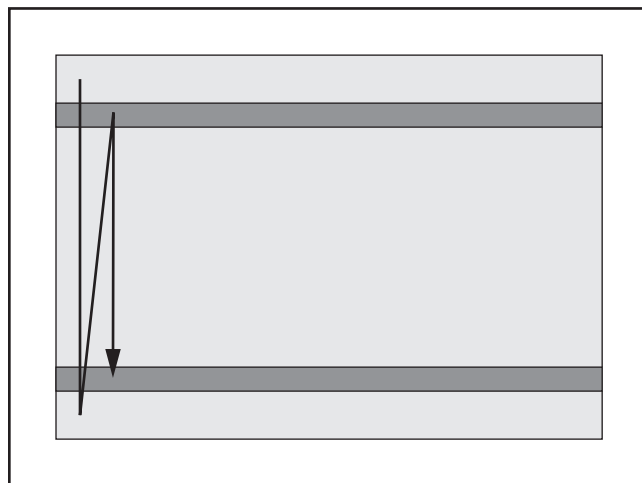

Figure 30. Example of rolling middle to middle line.
2. Roll workpiece from middle line on one side to middle line on opposite side, as shown in **Figure 30**.